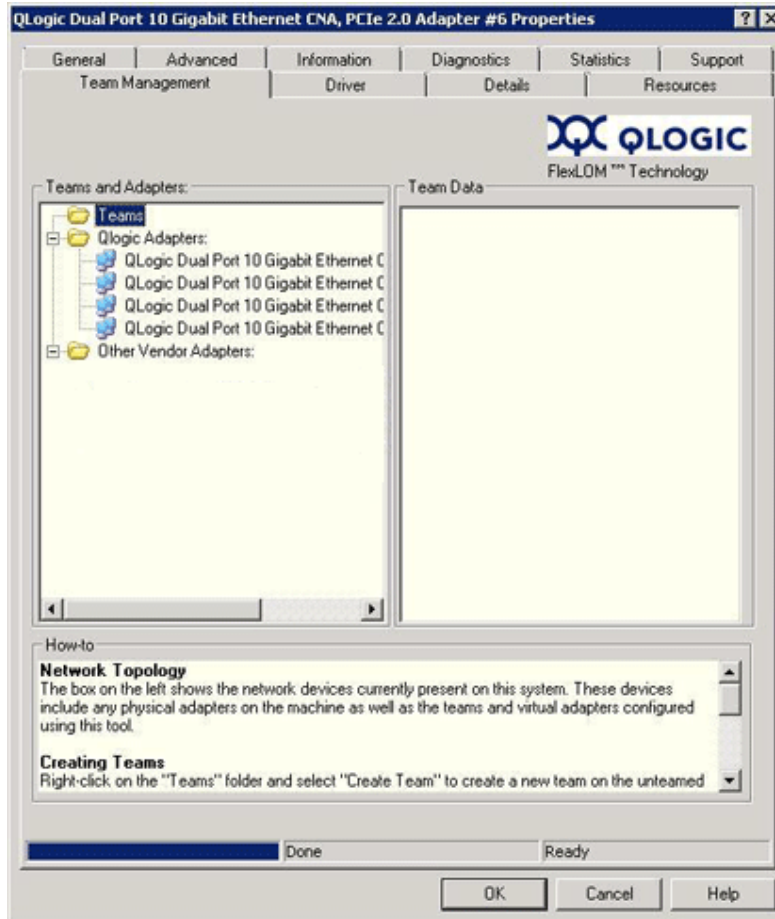

Figure 2-5. Team Management Property Page
3. Click the **Team Management** tab to bring that page to the front (Figure 2-5) and perform teaming-related management.